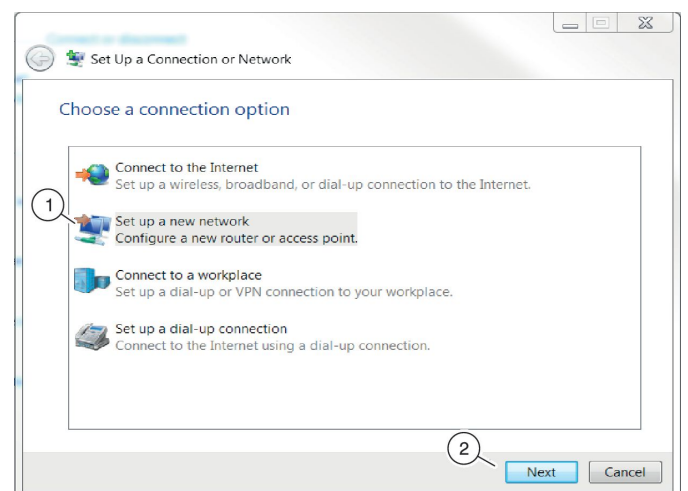

Fig. 38: Setting up a new network
3. ▶ Select 'Set up a new network' ( Fig. 38 /1), then click 'Next' ( Fig. 38 /2).